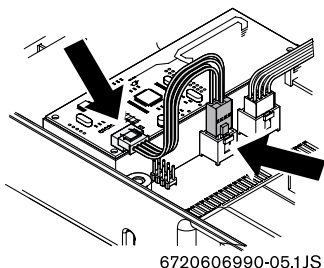

Fig. 5
- Using the supplied cable make the connection between the main PCB and the remote control PCB as shown in Fig. 5.